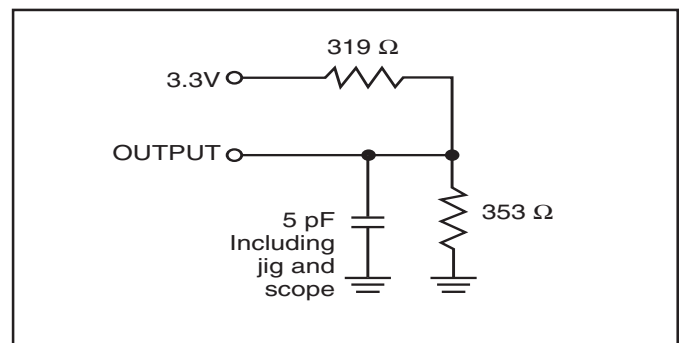

Figure 2.
2. Tested with the load in Figure 2. Transition is measured ±500 mV from steady-state voltage. Not 100% tested.
3. Tested with the load in Figure 2. Transition is measured  $\pm 500$  mV from steady-state voltage. Not 100% tested.